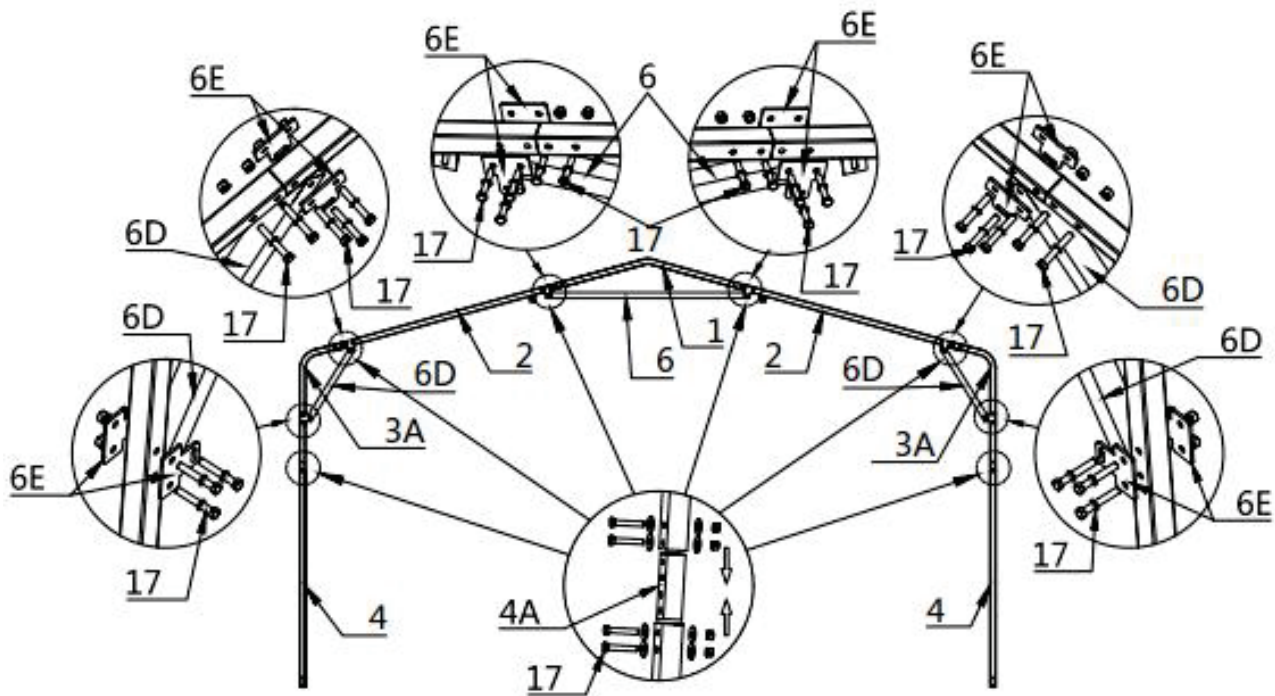

Figure 3
- Parts used to install (1) middle trusses in this step (refer to figure 3).
- (1) Peak arch tube (#1)
- (2) Middle rafter tube (#2)